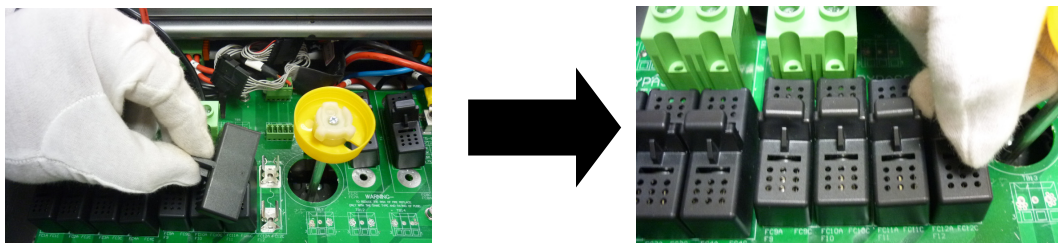

Figure 9.3.4: Install the fuse cover
- D) Install the fuse cover with the new fuse into the correct fuse holder as shown in figure 9.3.4. It is important to ensure the fuse cover is inserted tightly into fuse holder in order to complete the fuse replacement and re-installation procedure.